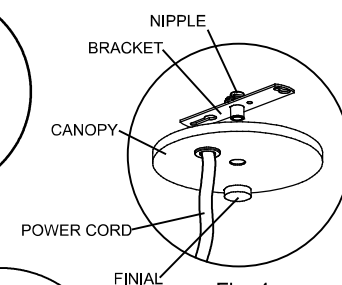

Fig. 4
6. Make appropriate wiring connections and attach the canopy to the junction box using the bracket / nipple / finial assembly provided (Fig. 4).